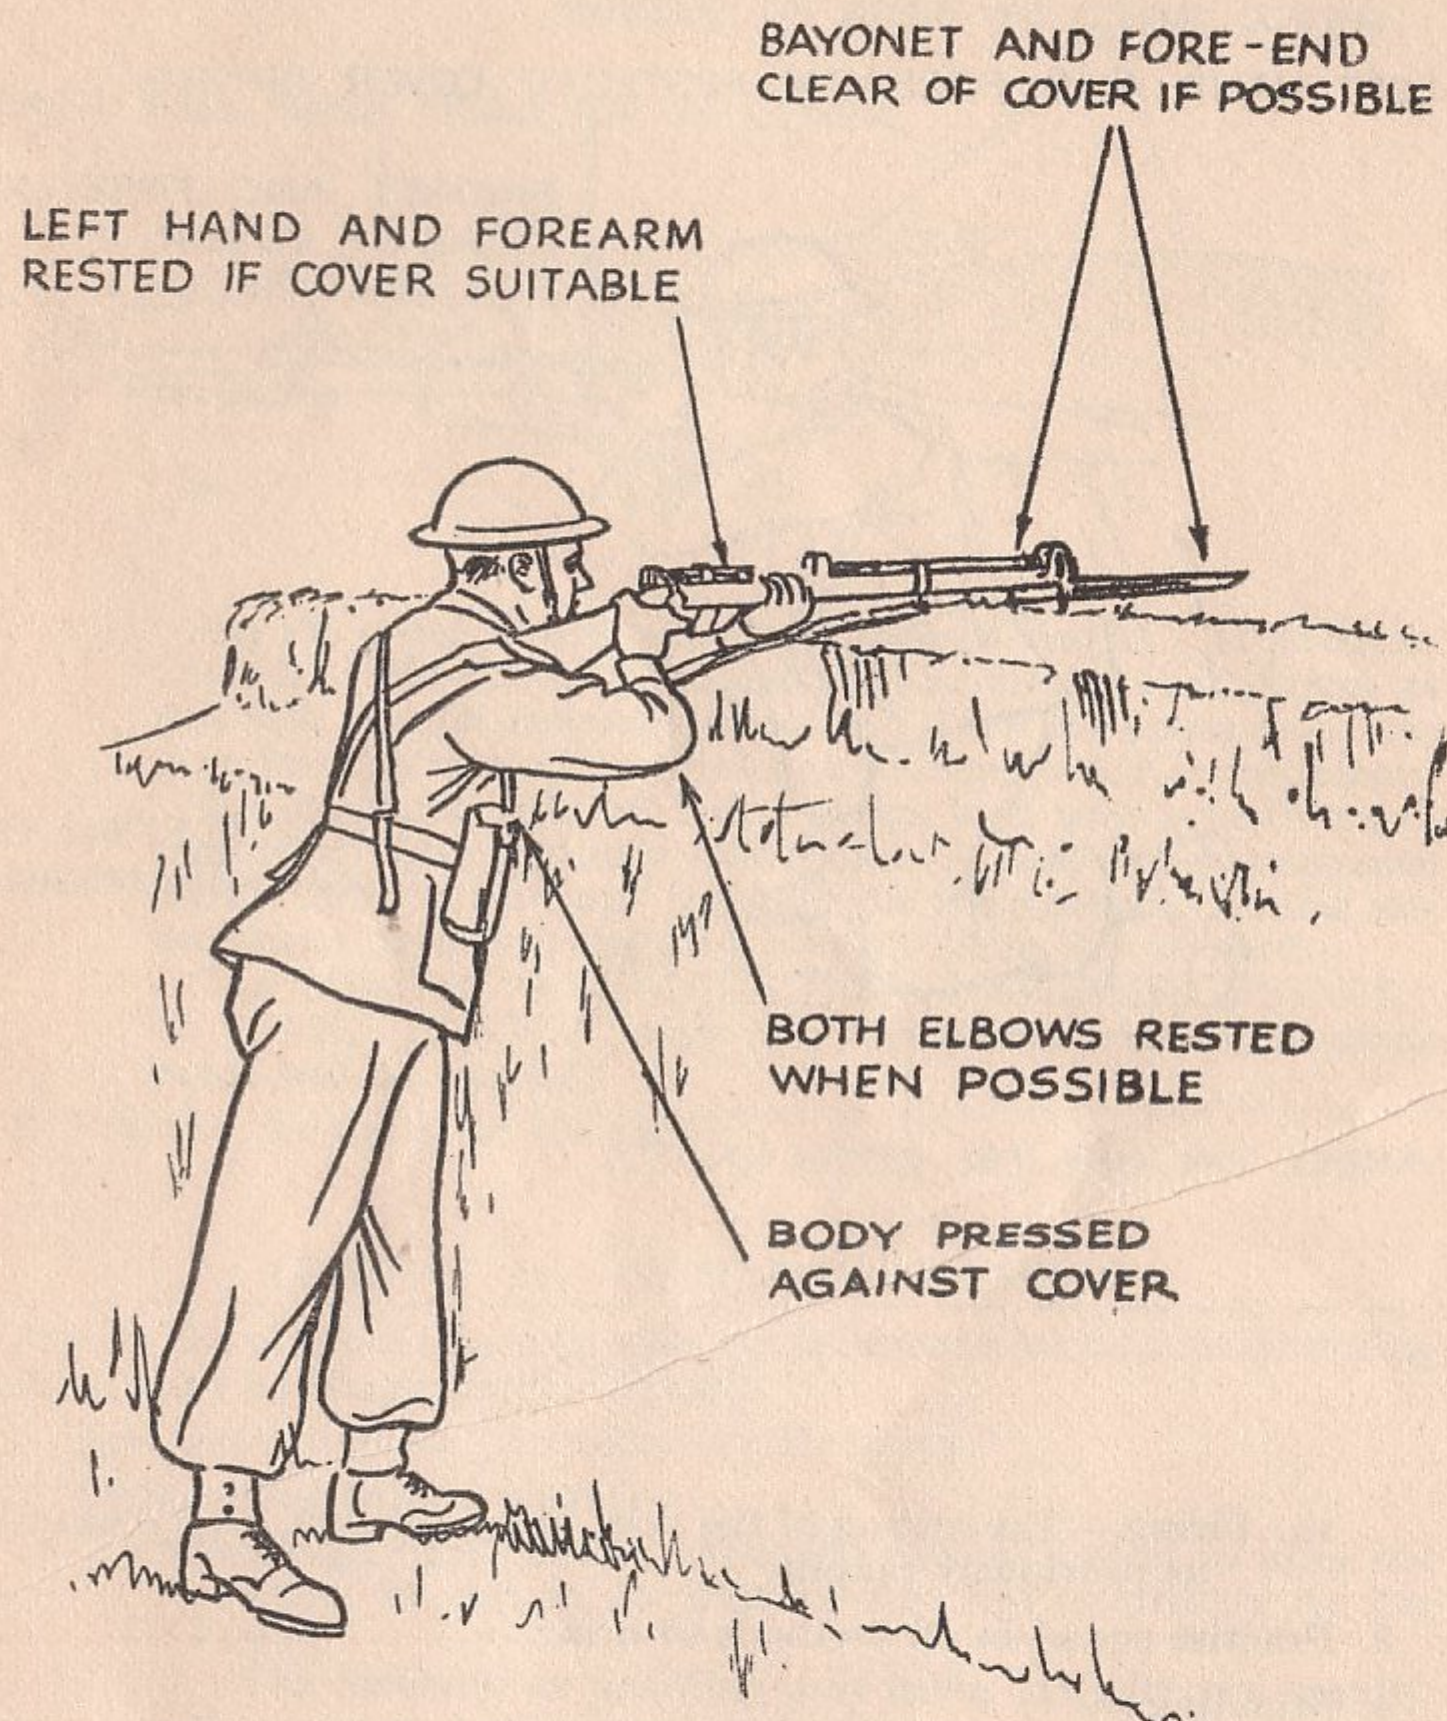

Fig 28
- i. Explain and Demonstrate.—"Positions of Observation" and "Behind Cover" and the actions of "Watch Your Front" are the same as for kneeling. "Position of Readiness" as for kneeling with probably slight differences, such as both elbows rested, as in a trench. The body pressed against the cover, if possible. (See Fig. 28.)